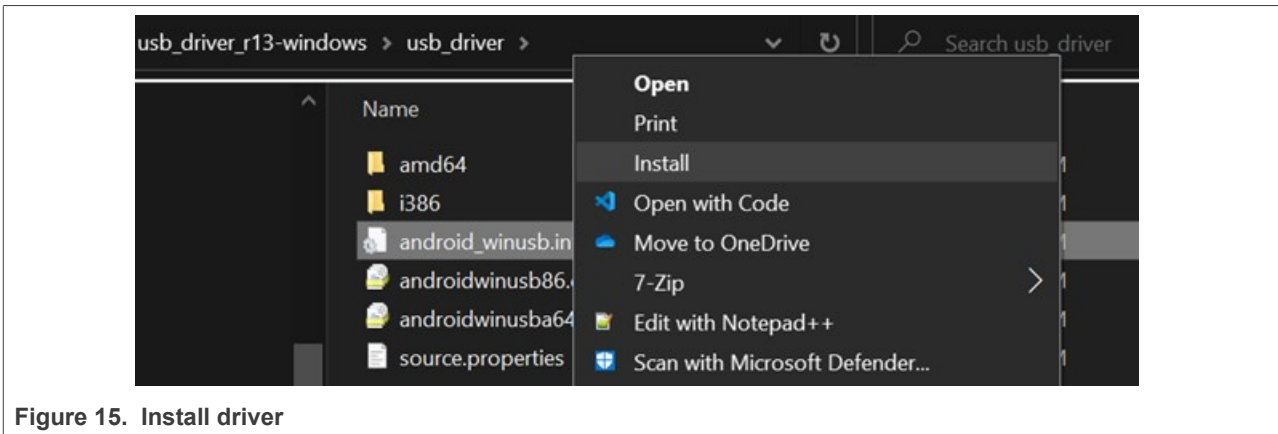

Figure 15. Install driver
3. Extract all and right-click to "android_winusb.inf" and press "Install" (see Figure 15).